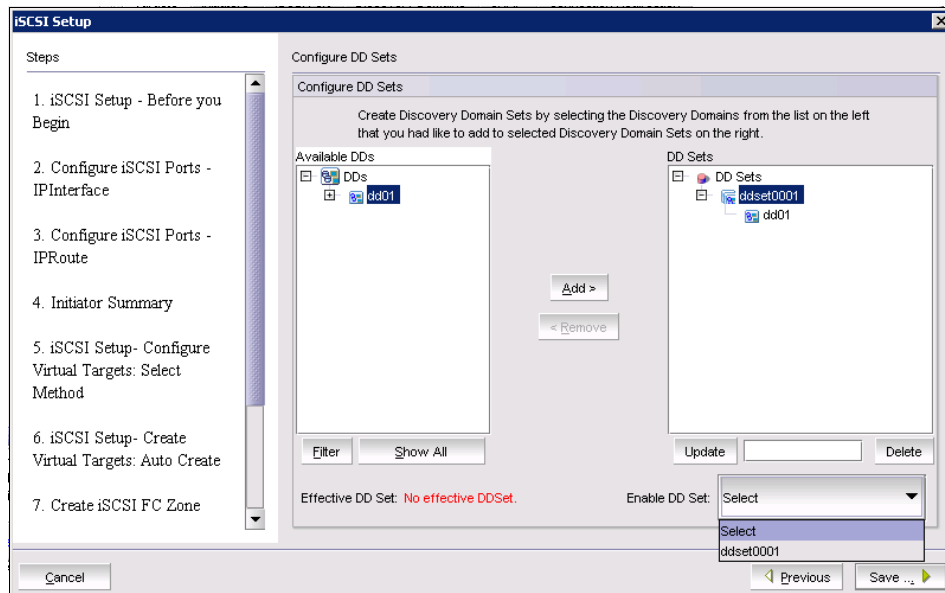

Figure 11-36 Enable DDSet
13. Select a DD Set to become the active DD Set with the Enable DD Set drop-down list. See Figure 11-36.